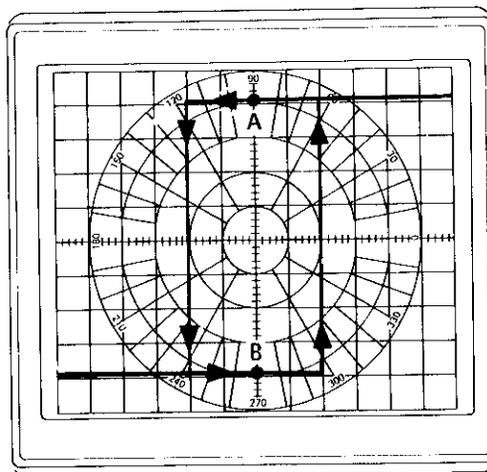

Figure A5-33. Hysteresis Loop Waveform
- p. Set A2 Frequency Control SCAN TIME SEC switch to MANUAL. Rotate MANUAL sweep control slowly clockwise and note point at which a negative to positive transition occurs as in Figure A5-33. Then rotate MANUAL sweep control slowly counterclockwise and note point at which a positive to negative transition occurs. Adjust $\pm\Delta F$ FREQUENCY sweep width until the hysteresis loop is at least four divisions wide as shown in Figure A5-33.
- q. Set CRT trace dot to the right-hand edge of the CRT with the MANUAL sweep control, then bring the dot back to a point half-way between transitions (Point A on Figure A5-33).
- s. Set CRT trace dot to the left-hand edge of the CRT with the MANUAL sweep control, then bring the dot back to a point half-way between transitions (Point B on Figure A5-33). DVM should indicate $-900\text{ mV} \pm 1\text{ mV}$. If not, adjust "SCL" control A3A12R50 for $-900\text{ mV} \pm 1\text{ mV}$.